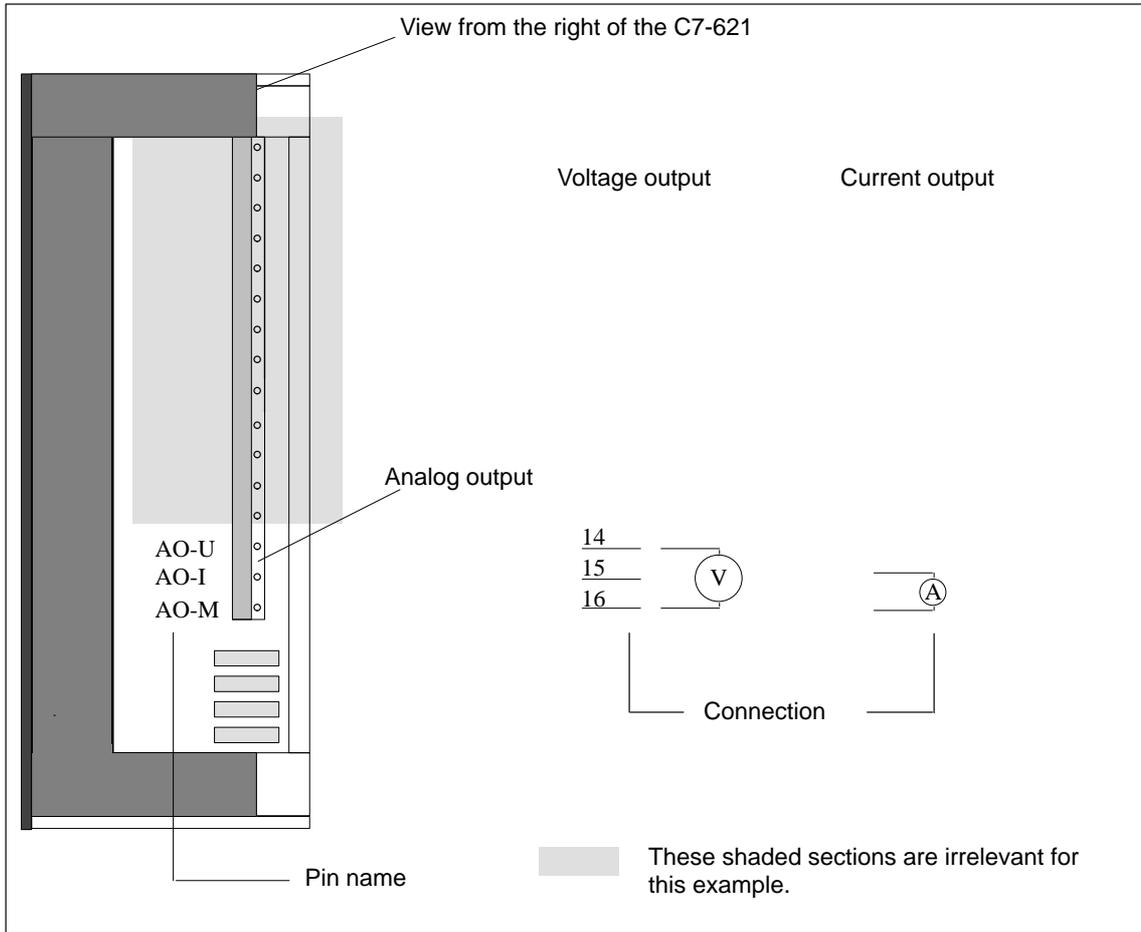

Figure 7-10 Terminal Diagram of the Analog Outputs
**Terminal Diagram** Figure 7-10 shows the terminal diagram of the analog output module.